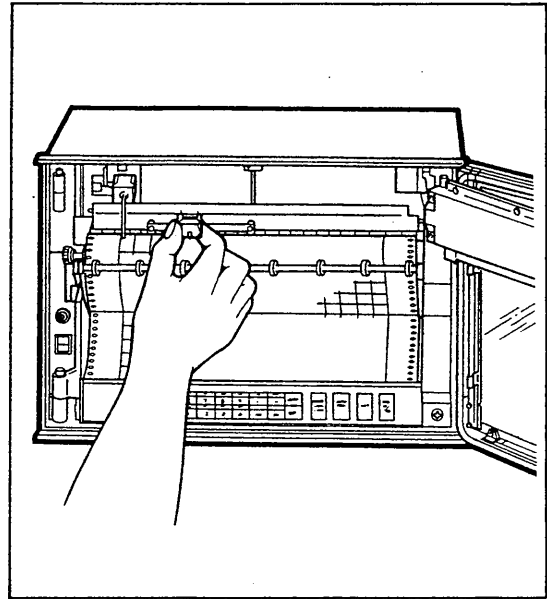

Figure 5-19. Replacing Plotter Pen.
- (3) While grasping the plotter pen holder, gently pull the plotter pen out of the holder. (See Figure 5-19.)
- (4) Insert a new plotter pen in the holder. (See Figure 5-19.)